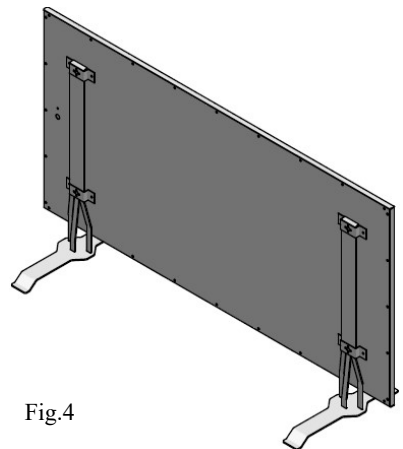

Fig. 4
- Mark the holes according to the table, drill out the holes, insert the dowels and drive the screw in to protrude approx. 5 mm. (Fig. 4)
(fig. 4)